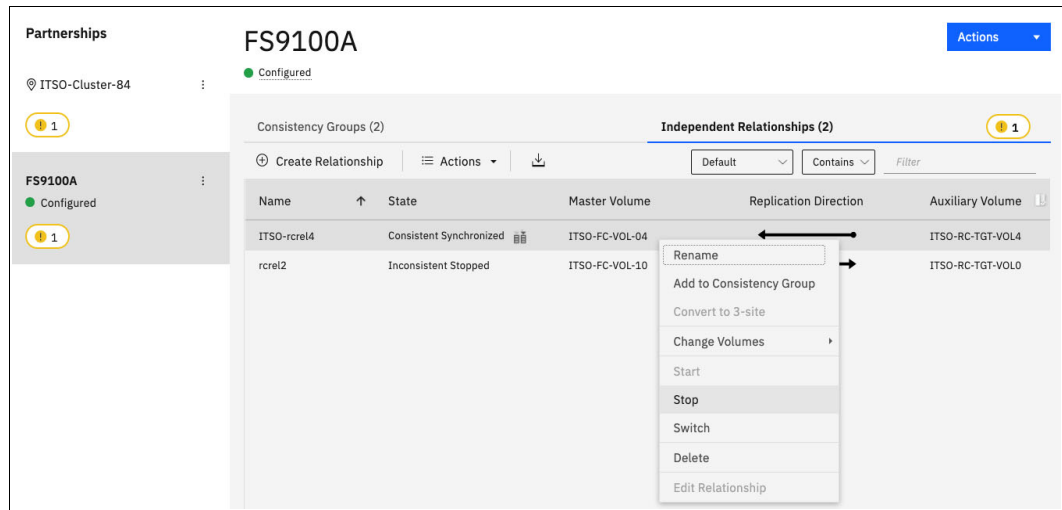

Figure 10-141 Stopping a Remote Copy relationship
2. Select the target RC system and go to the **Independent Relationships** tab. Right-click the relationships to be stopped and select **Stop**, as shown in Figure 10-141.